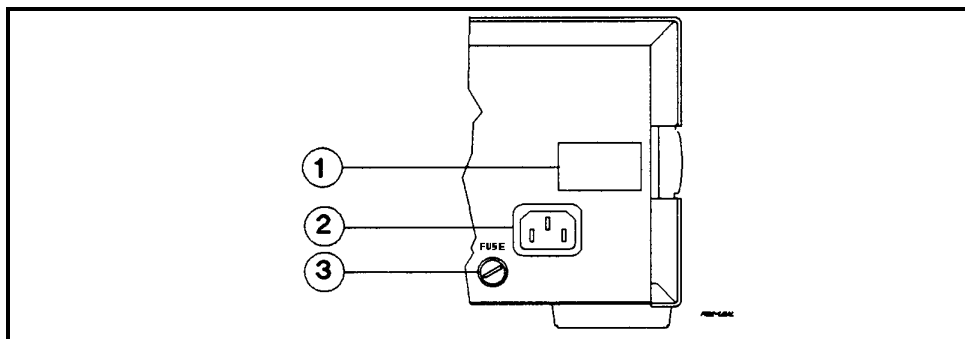

Figure 2-1. Agilent SAS Power Connection
The supplied cord connects to the power receptacle on the rear panel (②, Figure 2-1).
- You can operate your Agilent SAS from a nominal 100 V, 120 V, 220 V, 230 V, or 240 V single-phase ac line as indicated on the rear panel line **Rating** label ①.
- The line fuse is located in a fuseholder on the rear panel ③. The rear panel label shows the fuse value used in the unit. See Operator Replaceable Parts in chapter 1 for replacement fuse information.